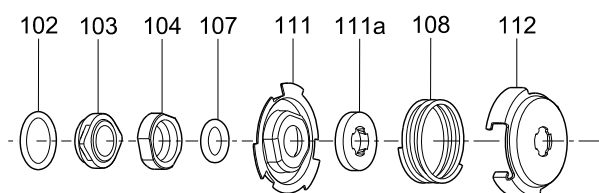

Fig. 9 Exploded view of shaft seal
9. Continue the dismantling until shaft seal (pos. 105).
10. Remove shaft seal (pos. 105). See fig. 9.